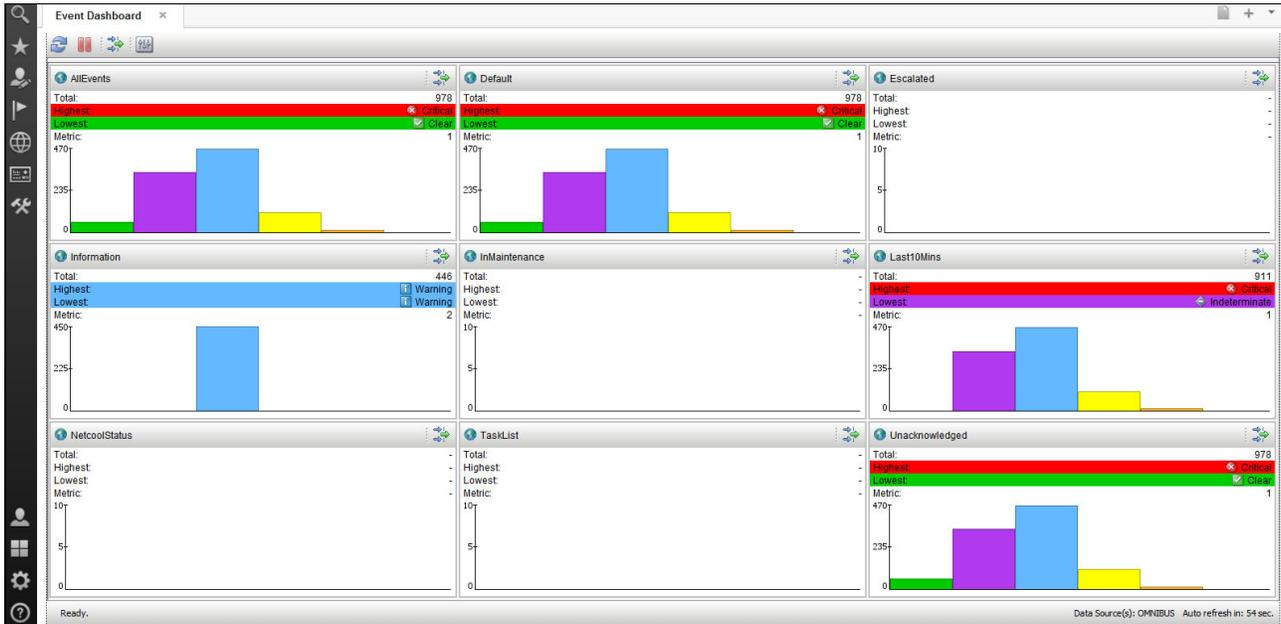

Figure 7-4 Event Dashboard
7. Jane switches to Event Dashboard. The network monitor window contains critical event alerts, as shown in Figure 7-4.